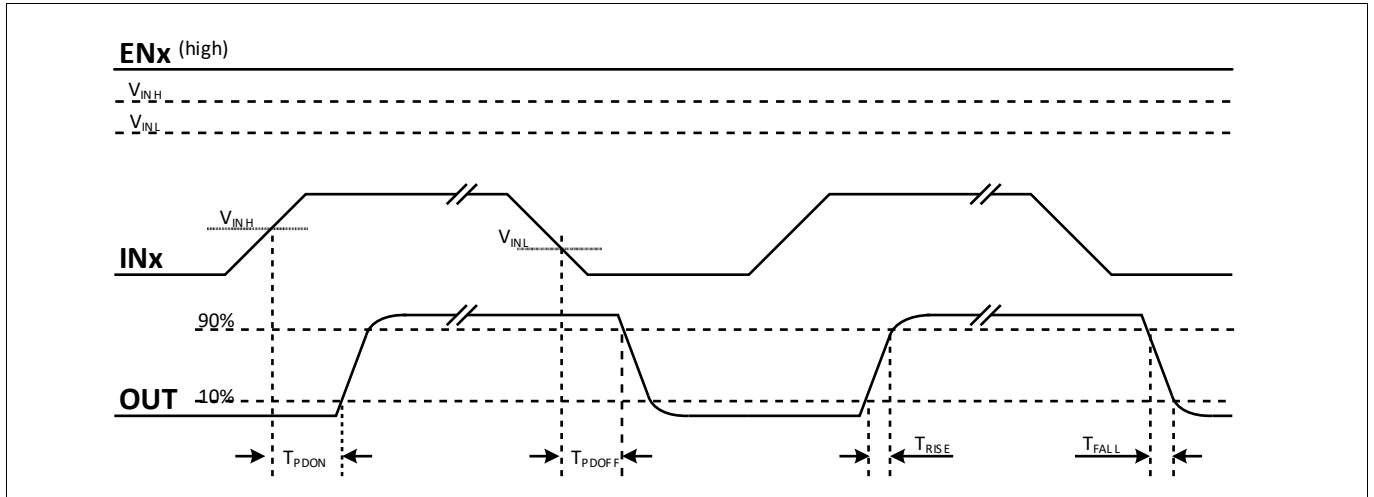

Figure 9 Propagation delay, rise and fall time definition for the direct/non-inverting configuration
**Table 18 Dynamic Characteristics (see Figure 9, Figure 10, Figure 11 and Figure 12)**
Figure 9 shows the definition of rise, fall and delay times for the inputs of the non-inverting/direct version (with enable pin high or open).